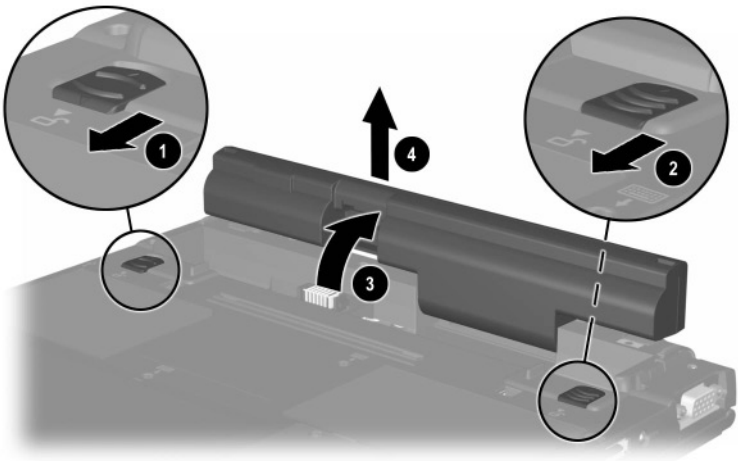

Figure 5-2. Removing the Primary Battery Pack
- b. Slide the left primary battery release latch forward ❶ (Figure 5-2).
- c. Slide the right primary battery release latch forward and hold it in place ❷.
- d. Swing the front edge of the primary battery pack up and back ❸.
- e. Lift the primary battery pack out of the battery bay ❹.